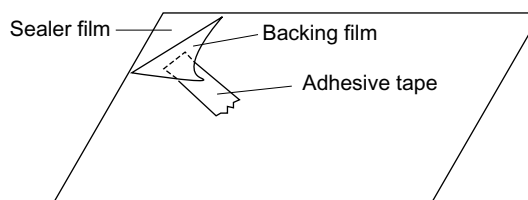

Figure C-6. Sealer film
1. Put the adhesive tape on the backing film of the sealer film as shown in Fig. C-6.